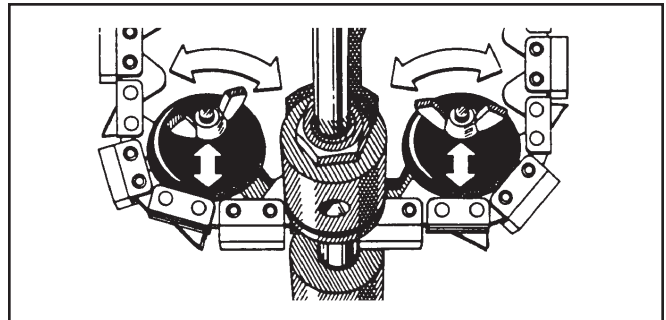

Figure 19. Positioning the Chain
2. Lay the chain across the plastic chain supports and then rotate the supports so the rivet head is centered between the take-up handle pocket and the spinner anvil (Figure 19).